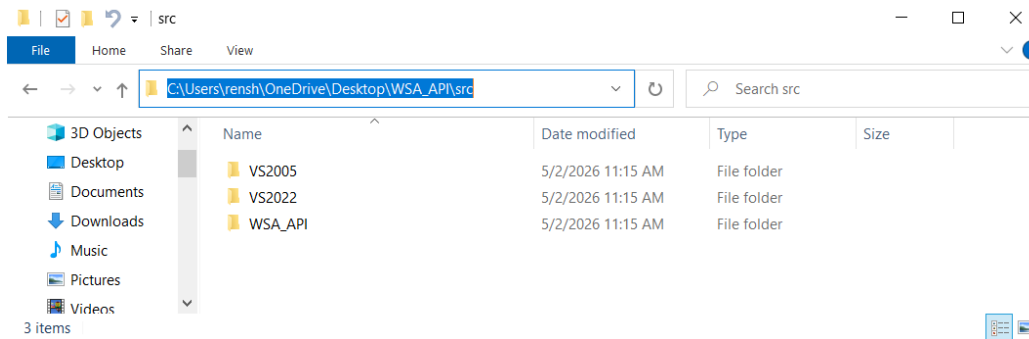

Figure 23 - Inside the “src” folder of the unzipped “WSA_API.zip” files, you’ll see sub-folders as shown here.
As shown in Figure 23, all the C-source files are under the “WSA_API” sub-folder as shown below:
Although one can import all the above C source files into any software programming or project management tool environments, we suggest you use Microsoft's (VS) Visual Studio tool. Assume you already have the VS tool installed, you can go back to the "src" folder shown in Figure 23, and navigate to the VS2005 folder if you have VS version prior to 2022, or navigate to VS2022 folder if you have VS version 2022 or later. Assume you have the latter, go to the VS2022 folder, you'll see the following: